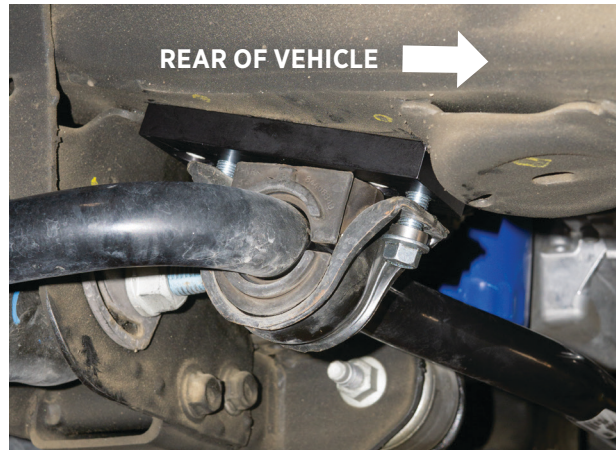

Fig. 6: Evenly tighten the front and rear bolts.
7. Once both brackets are loosely mounted, install the front bolt and spacer. Tighten all the hardware evenly (Fig. 6).